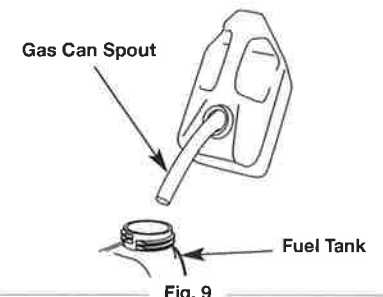

Fig. 9
- Remove the fuel cap (Fig. 9).
- Place the gas container's spout into the fill hole on the fuel tank (Fig. 9) and fill the tank.